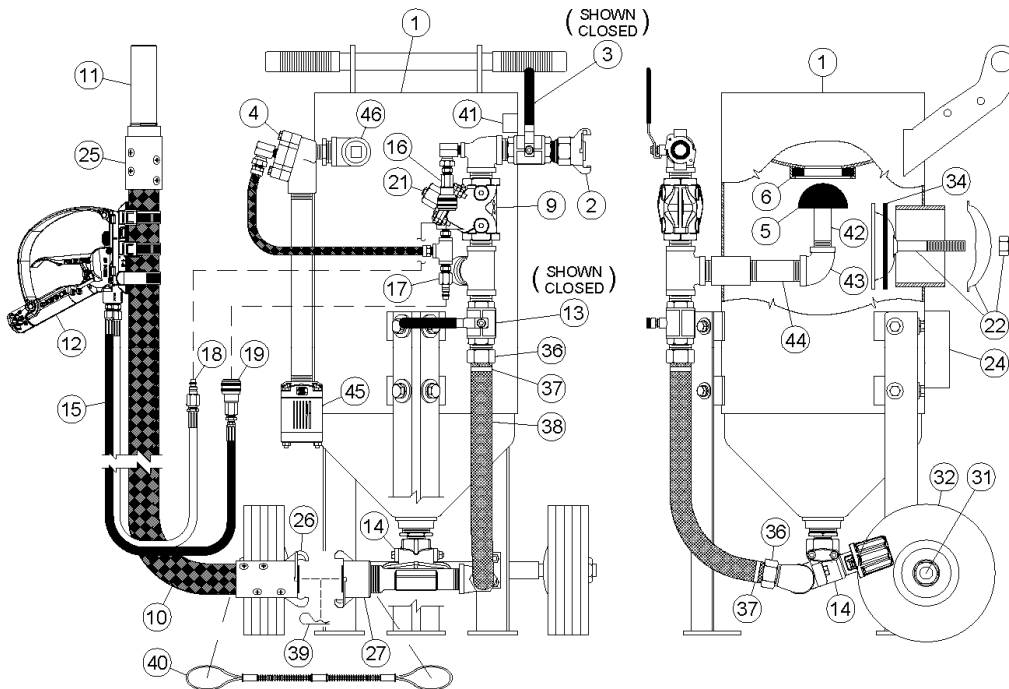

Figure 8.4 – Universal Small Pot with pneumatic blast controls
- 8.11. **Exhaust Valve:** Check daily for air leaks from the VBS Lite with the blast activated. Abrasive carry-over will thin and eventually wear a hole through the exhaust valve (#4) diaphragm. Excessive thinning will cause an irregular surface and prevent the diaphragm from sealing the exhaust flow and result in air leaks and equipment malfunction. The abrasive carry-over will also wear the exhaust valve body and the pipe fittings upstream. These fittings are the 1" x close blowdown flow control nipple (#46), 1" tee, and the 1" pipe plug (see Figure 8.4). Depressurize the abrasive blaster per Section 6.2 and check the diaphragm condition monthly. Replace as needed. See drawing in Section 9.6.